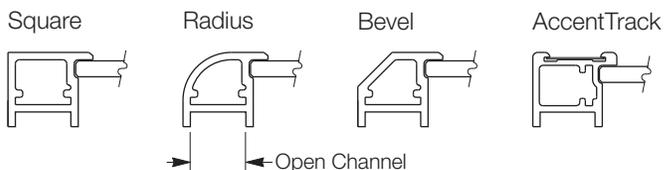
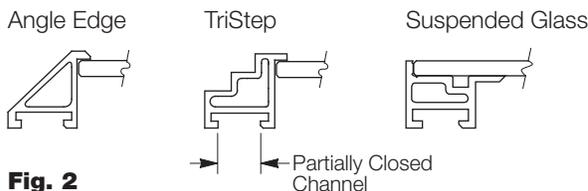

Fig. 1
Fig. 2
Step 3 - Identify the existing door shape from Fig. 1 or Fig. 2.
The profiles in Fig. 1 contain an open channel design which readily accepts the new lock assembly. If existing door shape is shown in Fig. 1, then proceed to Step 4. NOTE: Prior to February, 1996, AccentTrack had a partially enclosed channel as described in next paragraph.
The profiles in Fig. 2 contain two small "returns" which partially enclose the channel. Door(s) matching these shapes must be disassembled from directory housing so the "returns" can be properly removed. Proceed to Step 9 for "Door Removal."
Additional items for door styles shown in Fig.2